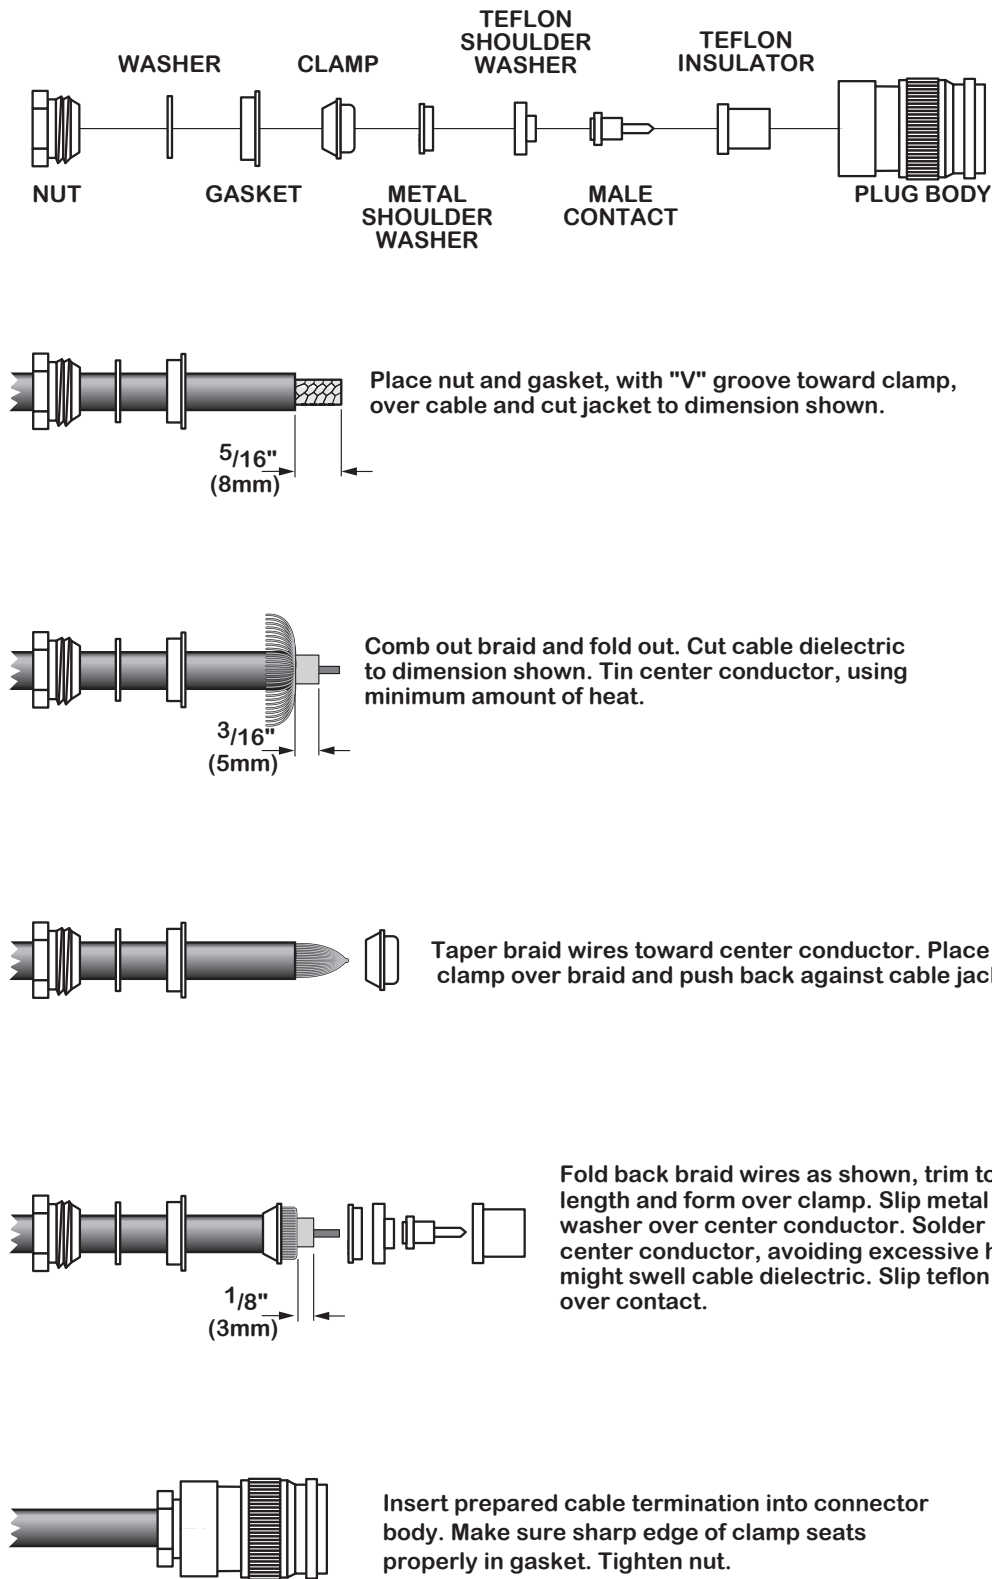

Figure K-1
- Install BNC connectors on the ends of the coax as illustrated in Figure K-1. Never use a crimp-style BNC connector for radio communications equipment.